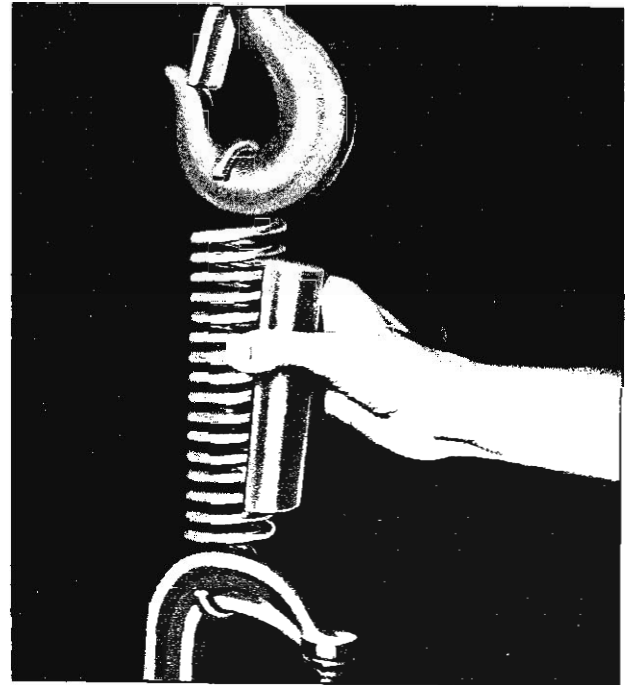

Fig. 21c—Installing J-9559 in New Spring
2. Hook one end of spring in clamp and the other end in hook of chain hoist, "cherry-picker" or equivalent, as shown in Figure 21c.